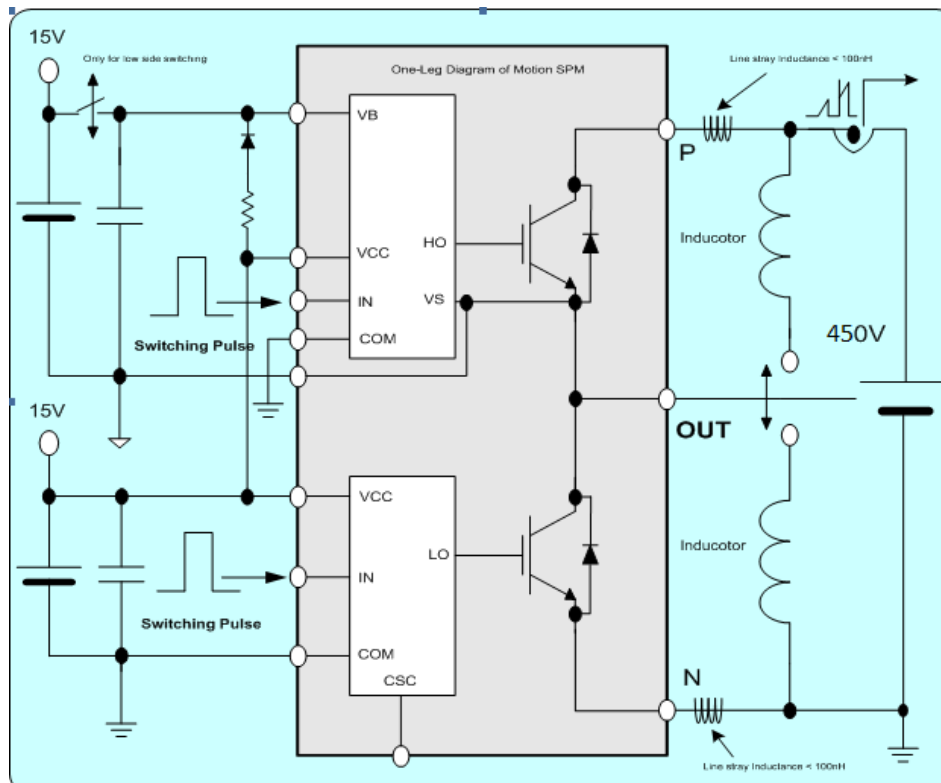

Figure 6. Switching Evaluation Circuit
- t_{ON} and t_{OFF} include the propagation delay time of the internal drive IC. $t_{C(ON)}$ and $t_{C(OFF)}$ are the switching times of IGBT itself under the given gate driving condition internally. Refer to Figure 6 for detailed information.